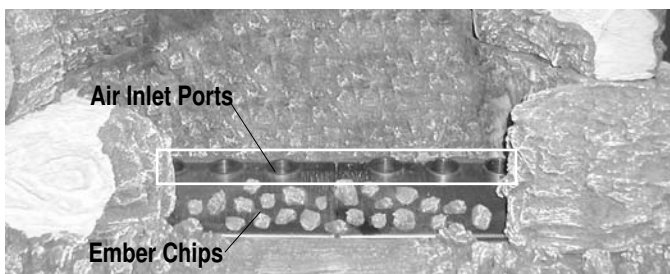

Figure 29c. Ember Chip placement.
3. Arrange the ember chips on top of the burner tray. Care should be taken when placing the ember chips, as blocked burner ports may cause an incorrect flame pattern, carbon deposits and delayed ignition. Also, the chips must never be placed in a way that obstructs any of the air inlet ports, located at the rear of the burner, as shown in figure 29c.